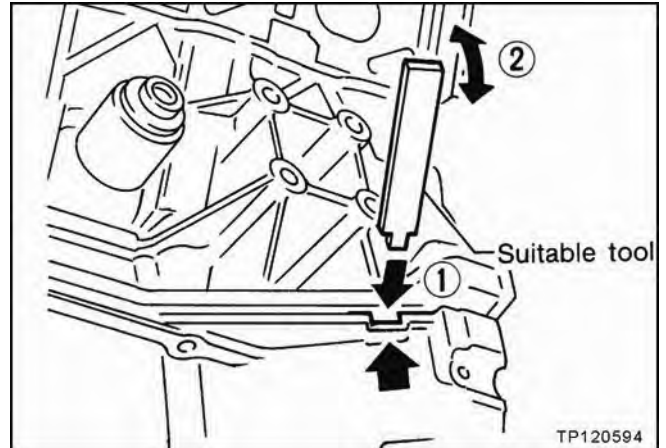

Figure 52
70. Remove the upper oil pan as follows (see Figure 52):
- a. Insert an appropriate size tool into the notch (1) of the upper oil pan as shown.
- b. Pry off the upper oil pan by moving the tool up and down (2) as shown.